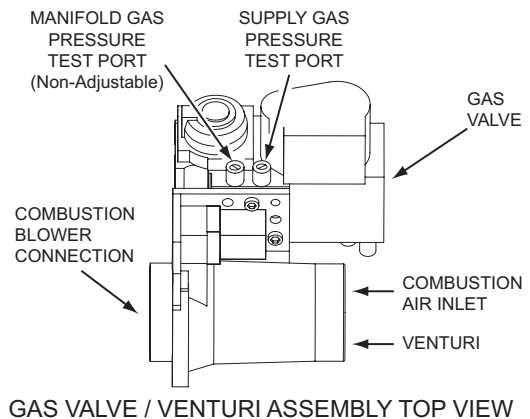
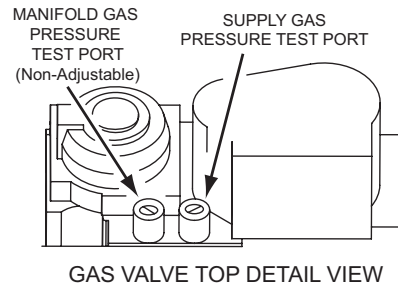

Figure 60
Figure 61
4. Wait five (5) minutes for any residual gas to clear.
5. Connect the manometer to the supply gas pressure port on the gas valve, see Figure 60 and Figure 61.
On the water heaters covered by this manual there are test ports for supply and manifold gas pressure readings on the gas valve. Using a small flat tip pocket screw driver - open the needle valve inside the supply gas pressure test port one full turn only; turn the needle valve screw counter-clockwise to open the valve. Slide the manometer sensing tube over the top of the test port, see Figure 60 and Figure 61 on page 53.